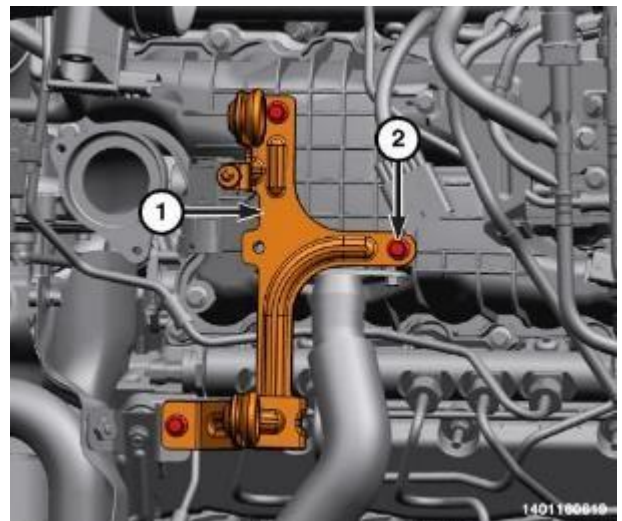

Figure 59 – Harness Bracket Bolts
104. Install the wire harness bracket (1) and securely tighten the bolts (2) (Figure 59).